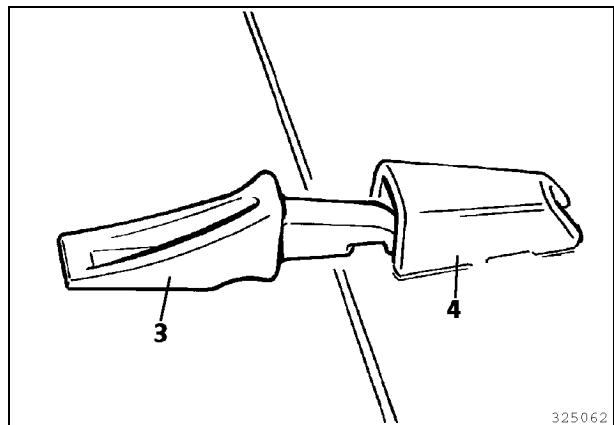
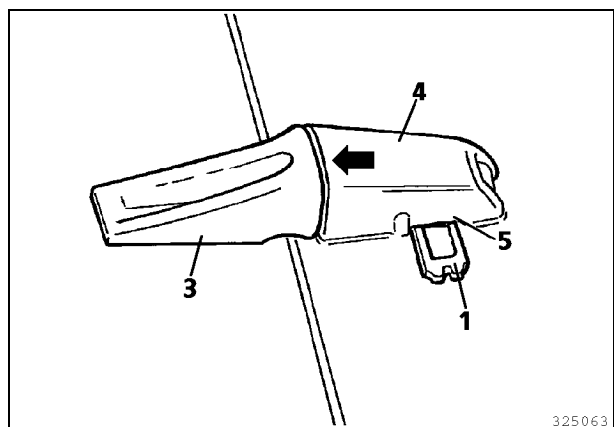

Fig. 3
Fig. 4
- Insert new tooth (3) into socket (4, Fig. 3). The tooth must fit at the point marked with an arrow (Fig. 4).
- Knock new tooth-securing device (1, Fig. 4) into opening (5) of socket (4).